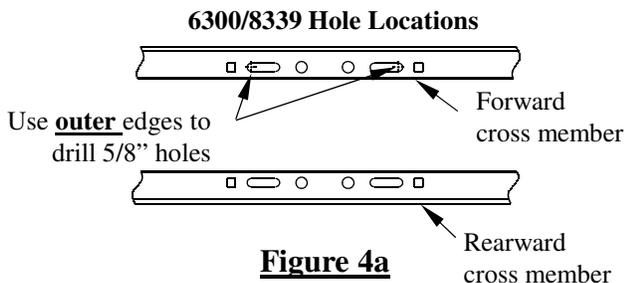

Figure 4a
- 6a.** For **6300 & 8339** use the **outer** edges of the long slots in the forward cross member as a template to drill 5/8" diameter holes through the truck bed as shown in Figure 4a. Not all holes can be drilled from under the vehicle, but should be done later from inside the bed.